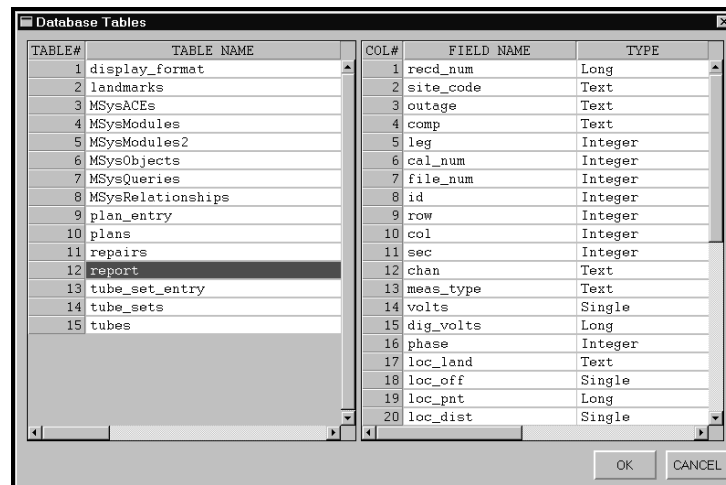

Figure 3-81. Database Tables Window
- SQL > Query > Show Tables calls up the Database Tables Window that gives a concise picture of the database structure. For successful queries, a good understanding of the database structure is needed. What tables are present, the fields within those tables and how all this is connected. As seen in Figure 3-81, on the left of the window are listed all the tables that make up the database. When you select a table, a list of fields for that table will appear on the right. In Figure 3-81, the *report* table is selected and the fields comprising the *report* table are listed on the right.